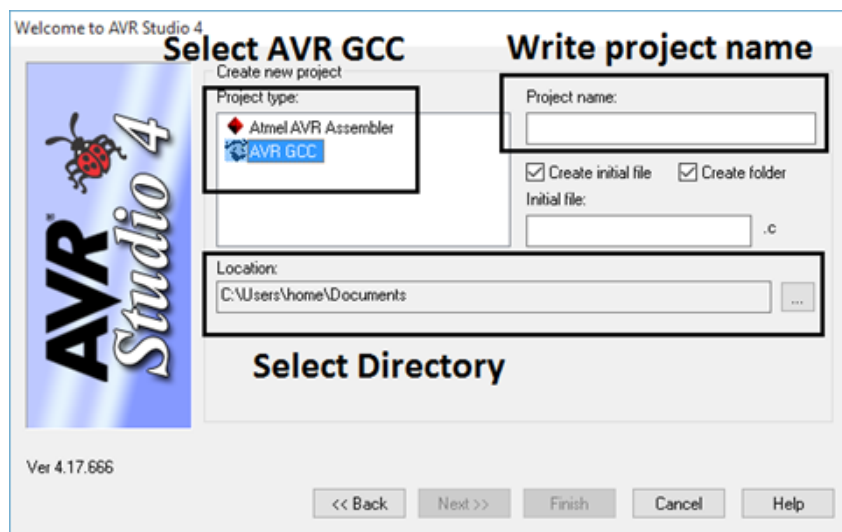

Figure 1.7 – Compiler selection and Project name description with location
- After selecting New Project, two options will be displayed (AVR Assembler and AVR GCC). AVR Assembler is selected for the assembly code and AVR GCC is selected to compile C-code. In this tutorial, we will use C-code so select AVR GCC. Write project name (lab1 for this tutorial) and select the path directory path to save files for this new project (Select desktop and lab1 as folder name) and Click Next (figure 1.7).